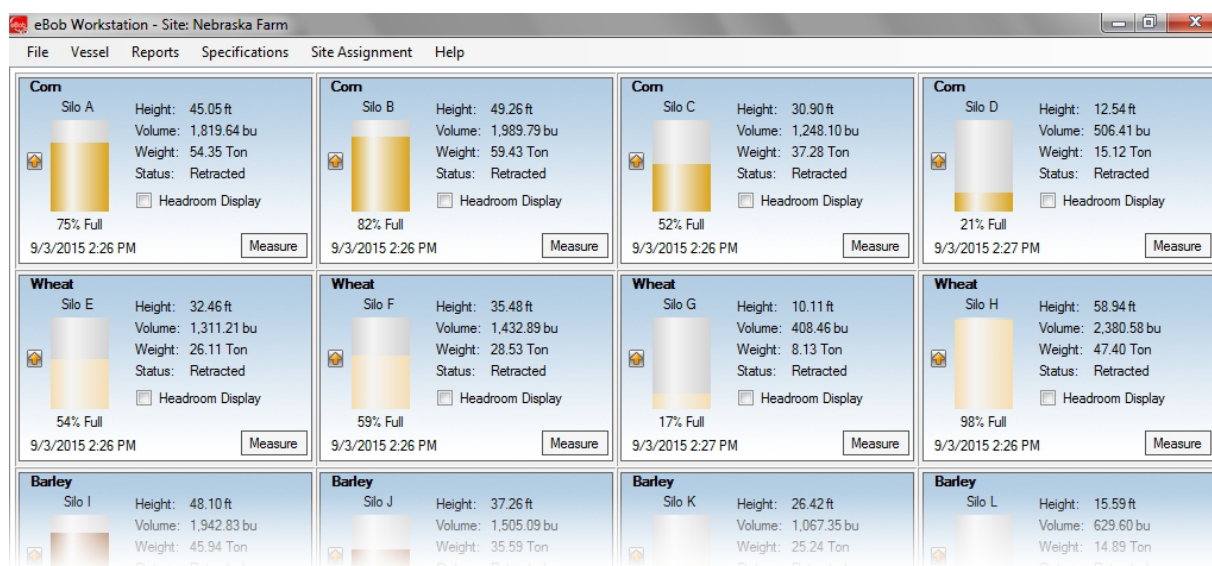

Figure 1
The main screen of Bininventory Workstation shown in Figure 1 provides a table of vessels, each represented by a panel, providing visual and detailed level indication. The main screen can display 16 vessels (panels) at a time with tabs along the bottom for quickly switching to view more vessels. There is also a menu system along the top that provides access to configuration screens for vessel setup, site setup, scheduling, alarms, email alerts and more.
1. **Workstation** – This provides the user interface for Bininventory. It is what you will use to view vessels,  product levels, configure the system and create reports. See Figure 1. It runs like most Windows programs. You double-click an icon on your desktop or click an icon in your Windows start menu, and it opens a window for you to interface with, using a mouse and keyboard. There can be one or more Workstations in a Bininventory system. Refer to section **5 The Workstation** for details.